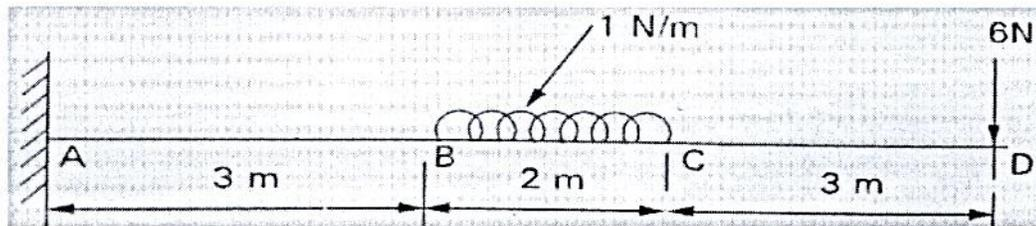

Fig. 2
- IX.** (a) Define columns and struts. (6)
- (b) Draw shear force and bending moment diagrams for the cantilever beam with loading shown in fig 2. (9)